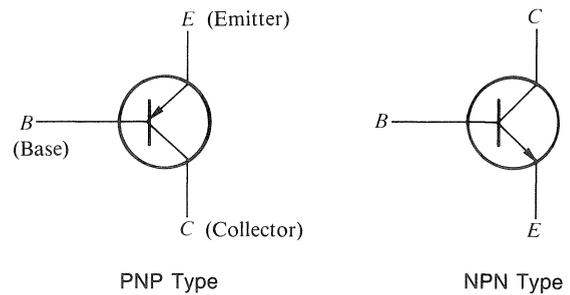

Fig. 1 Transistor Symbols
There are two types in transistors, NPN and PNP types as shown in Fig. 1. The NPN type is made of silicon. PNP transistors have been made of germanium. The germanium transistors, however, are being superseded by silicon transistors. A transistor has three main electrodes; emitter (E), base (B) and collector (C).